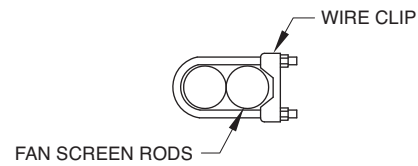
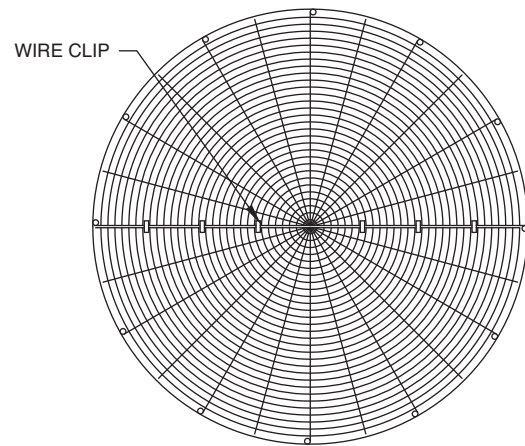

Figure 15 – Wire Clip Arrangement
Figure 16 – Wire Clip Spacing
3. Join the two screen halves with wire clips (See Figure 15). There should be 4 clips on either side of the fan screen. Space them evenly as shown in Figure 16.